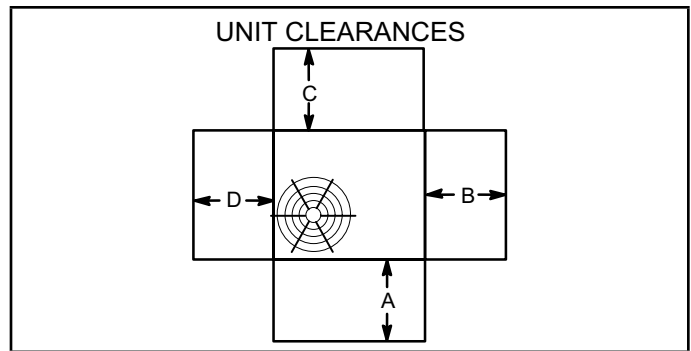

FIGURE 1
See FIGURE 1 for unit clearances.
- 1 - Specified installation clearances must be maintained when installing units. Refer to FIGURE 1.